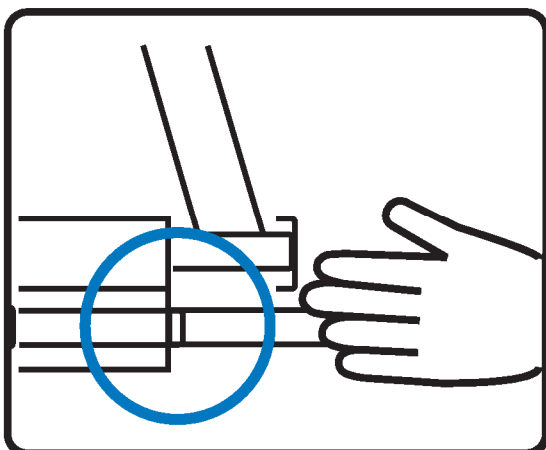

Figure 3.
- Push the keyboard drawer into the rack. (shown in **Figure 3**).